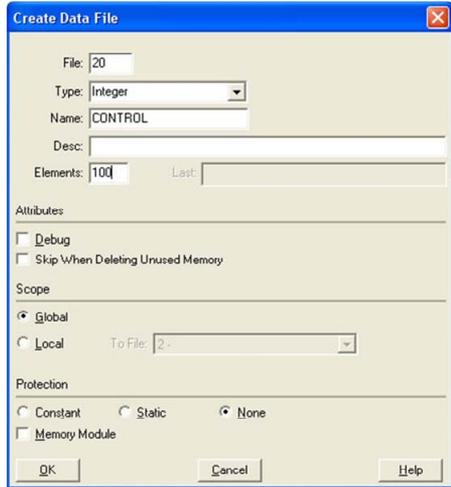

Figure 99: Creating a Control File
- a) Right click Data Files and select New... The "Create Data File" dialog box appears (refer to Figure 99).